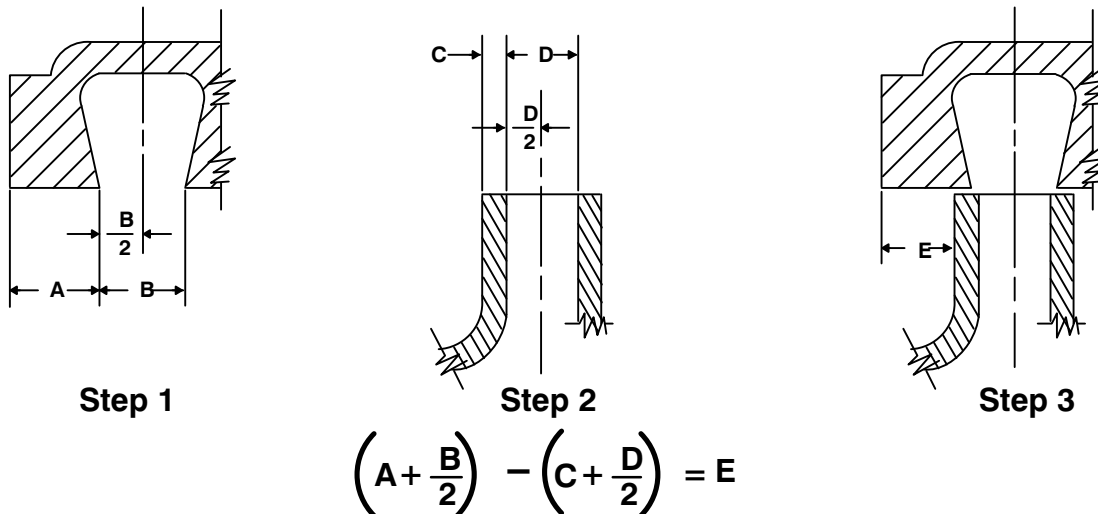

Figure 3. Centering Impeller Within Volute Scroll
To verify the impeller positioning, measure the pump casing and impeller as shown in Figure 3. Use these measurements to calculate the required impeller location (dimension E). Add or remove impeller adjusting shims (59) until dimension E is obtained.